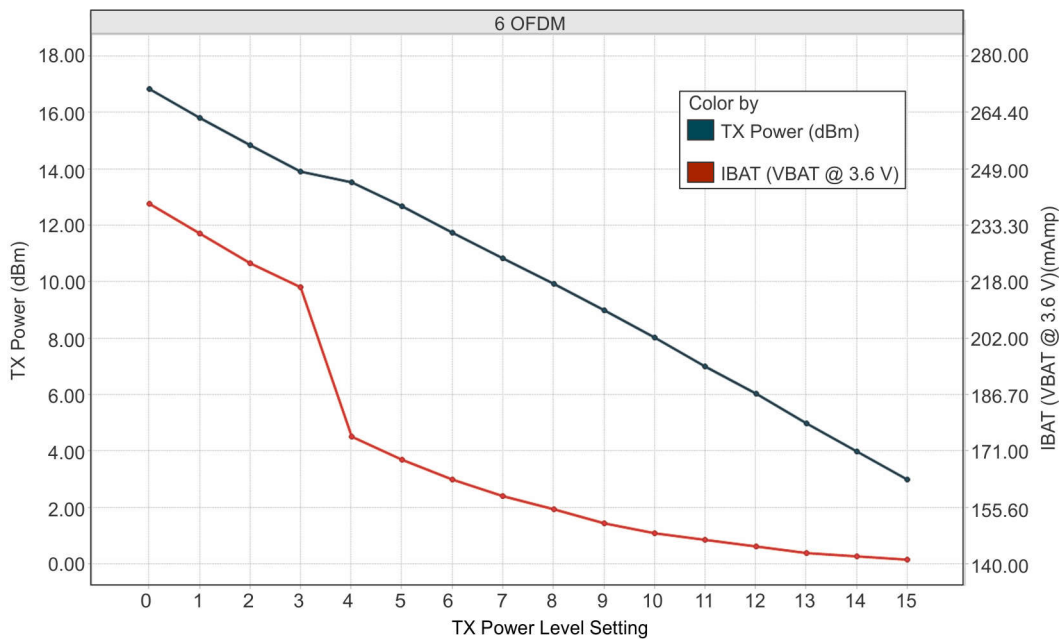
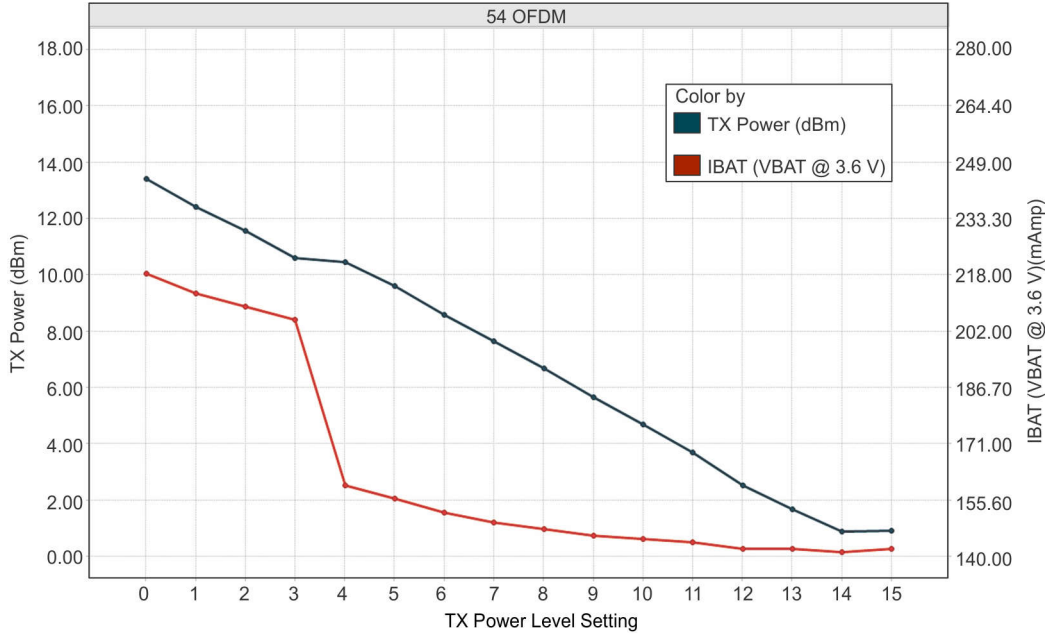

图 7-2. TX Power and IBAT vs TX Power Level Settings (6 OFDM)
图 7-3. TX Power and IBAT vs TX Power Level Settings (54 OFDM)
- (1) TX power level = 0 implies maximum power (see 图 7-1, 图 7-2, and 图 7-3). TX power level = 4 implies output power backed off approximately 4dB.
- (2) The CC3120MOD system is a constant power-source system. The active current numbers scale inversely on the V_{BAT} voltage supplied.
- (3) The RX current is measured with a 1Mbps throughput rate.
- (4) DTIM = 1
- (5) The complete calibration can take up to 17mJ of energy from the battery over a time of 24ms. In default mode, calibration is performed sparingly, typically when re-enabling the NWP and when the temperature has changed by more than 20°C . There are two additional calibration modes that may be used to reduced or completely eliminate the calibration event. For further details, see the CC3120, CC3220 SimpleLink™ Wi-Fi® and IoT Network Processor Programmer's Guide.